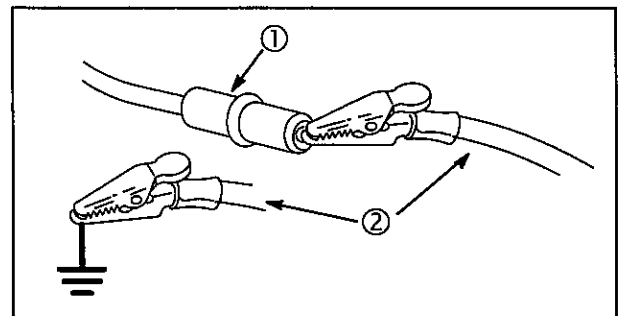

Fig. 15
2. Activate idle down device, or ground BLUE wire (1) from control module using a jumper wire (2), Fig. 15.